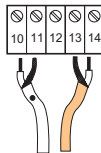
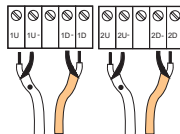

Fig. 5.5: Connection of the transducer cable with Sonalok 7S 51 Series
Fig. 5.6: Connection of the transducer cable with Sonalok 7S 52 Series
- Screw the basic part (3) with the housing.
- Fix the cable gland by screwing the cap nut (1) on the basic part (3).
- Connect the leads to the terminals of the flowmeter (see Fig. 5.5 or Fig. 5.6).